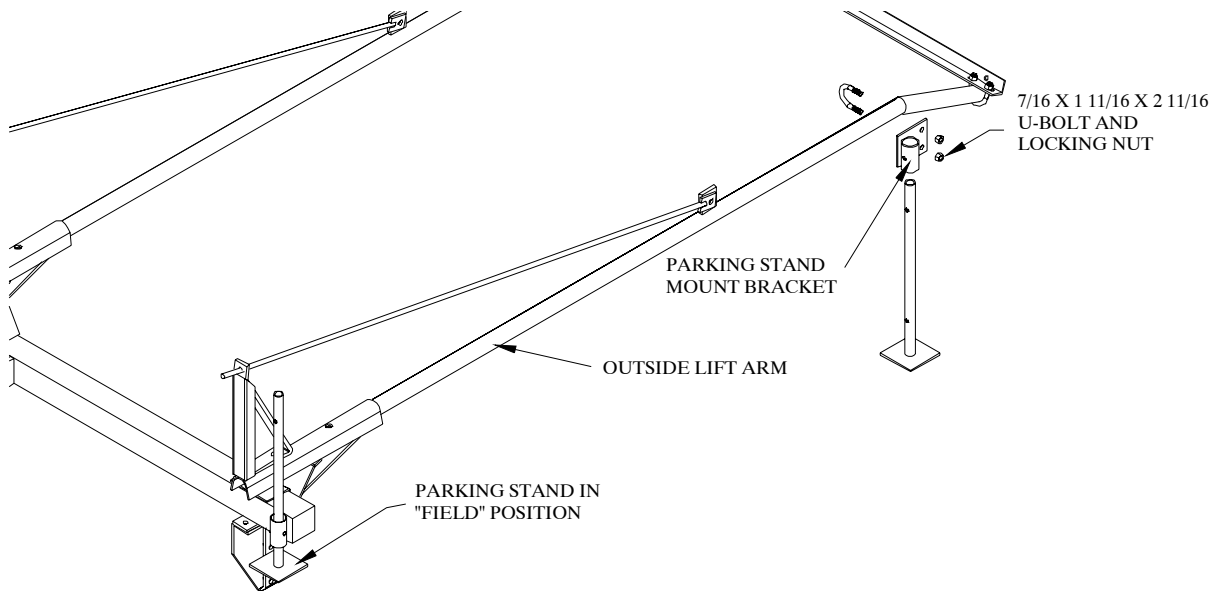

Figure 7
1. Bolt the jack stand mounting brackets to the outside lift arms towards the rear of the unit using 7/16 x 1 11/16 x 2 11/16 U-bolts and locking nuts. Refer to figure 7.